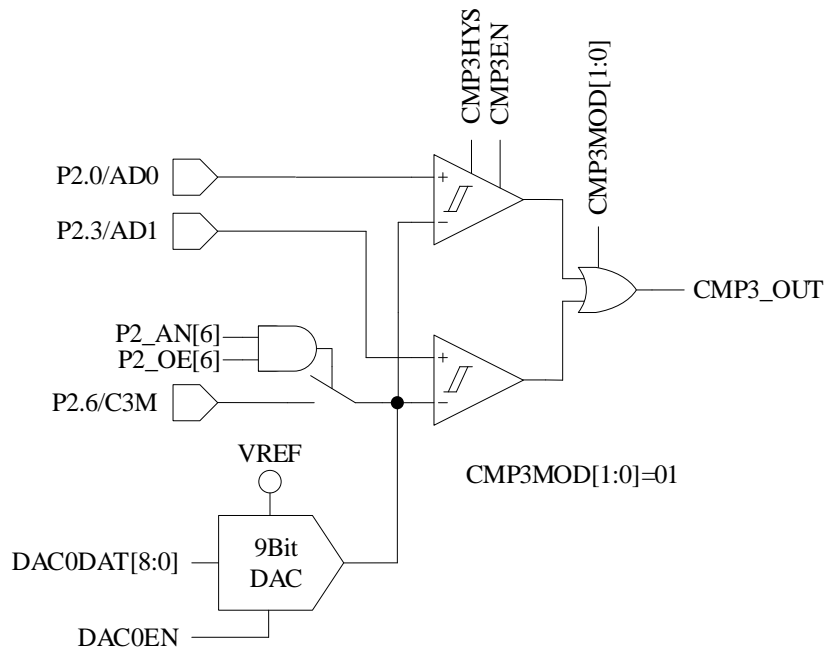

Figure 29-3 Dual-comparator Input Mode
- When CMP\_CR1[CMP3MOD] = 01, CMP3 works in Dual-comparator Input Mode. The connection of input and output pins are shown in Figure 29-3.